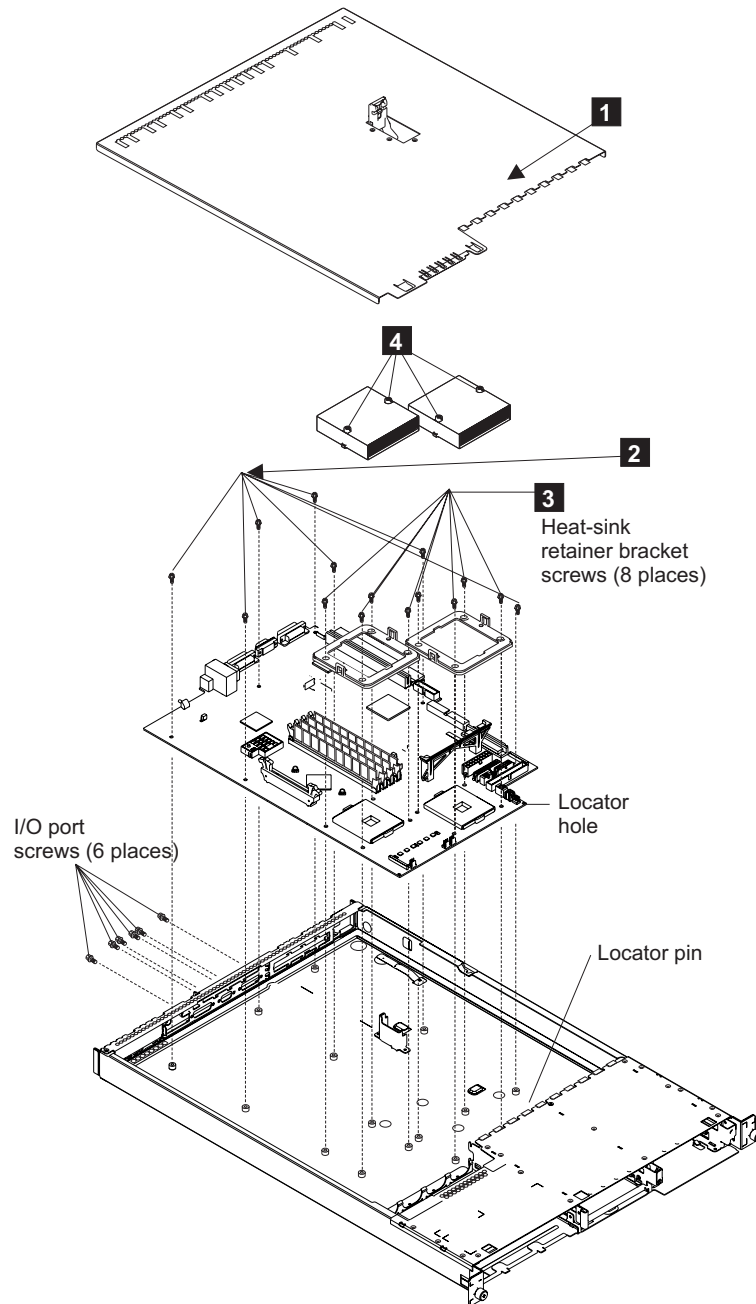

Figure 191. Removing the system board
3. Remove the top cover from the SAN Volume Controller (**1** in Figure 191 on page 469).
8. Unscrew the heat sink captive screws (**4** in Figure 191 on page 469).
10. Remove the screws from each of the heat sink retainer brackets (**3** in Figure 191 on page 469).
13. Remove the seven screws (**2** in Figure 191 on page 469).